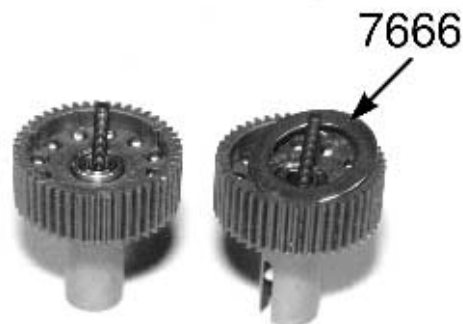

Fig. 53
□ **Fig. 53** With the Allen wrench still in the head of the diff bolt, turn the hub assembly upright so that the wrench is on the bottom. Make sure that the #7666 diff drive ring is still on and centered. Now pick up the #7664 diff drive gear with the balls and bearing installed and slip it over the #6575 diff thrust bolt onto the drive ring and hub. We want to center it on the diff drive ring on the right diff hub.
Now go back to bag A and take out the second #7666 diff drive ring. We are going to install this second drive ring on the top side of the diff gear over the diff balls and center it as best as you can. **Note:** In the photo for fig. 53 we have removed the Allen wrench so that you can see the diff gear before the #7666 drive ring is installed and as it is being installed. Remember, if you are doing the racers setup the rounded side will be up. **WARNING!** If you remove the gear at any time before you completely assemble the diff halves always double check to make sure you do not have both drive rings on the same side. This can be easy to do because one drive ring may stick to the diff gear and the other could be stuck to the diff outdrive hub.